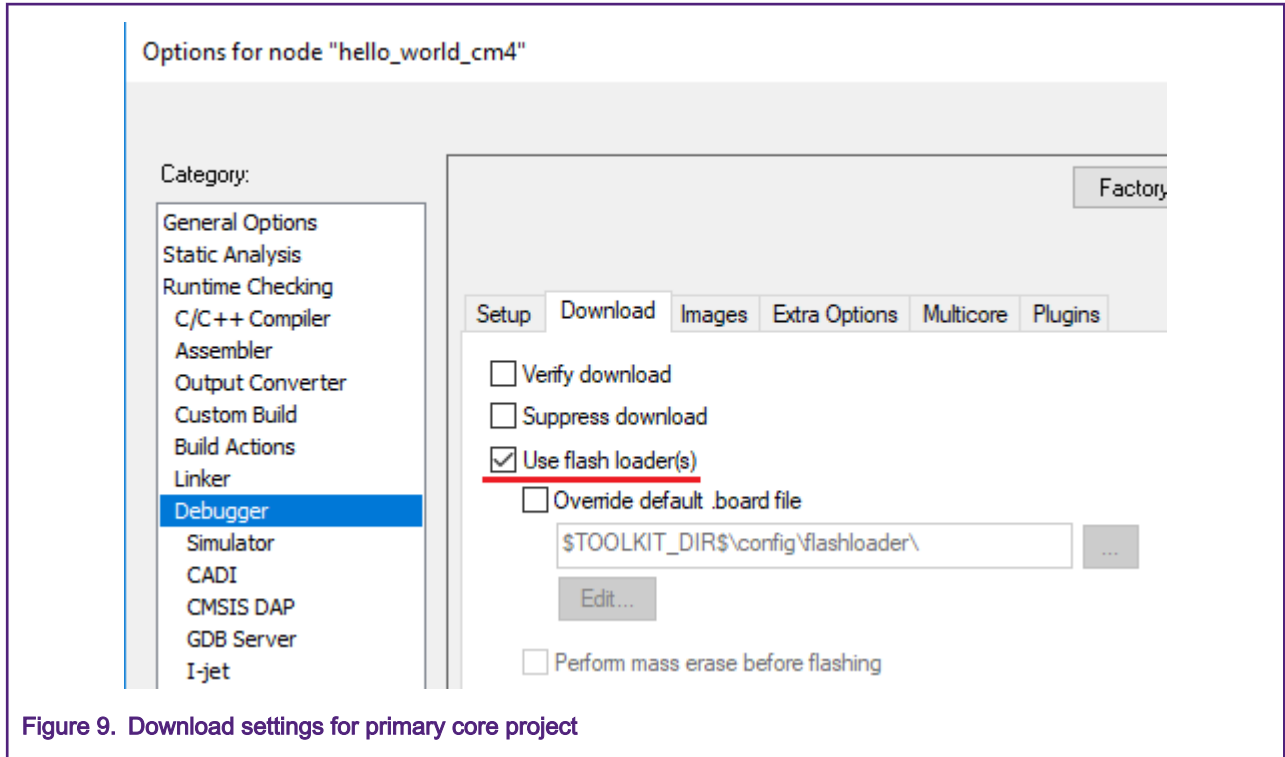

Figure 9. Download settings for primary core project
- Let's look at the **Download** options of the Debugger configuration. The `hello_world` example is configured to download to flash. Figure 9 shows the primary core configuration (must use a flash loader if downloading to flash).